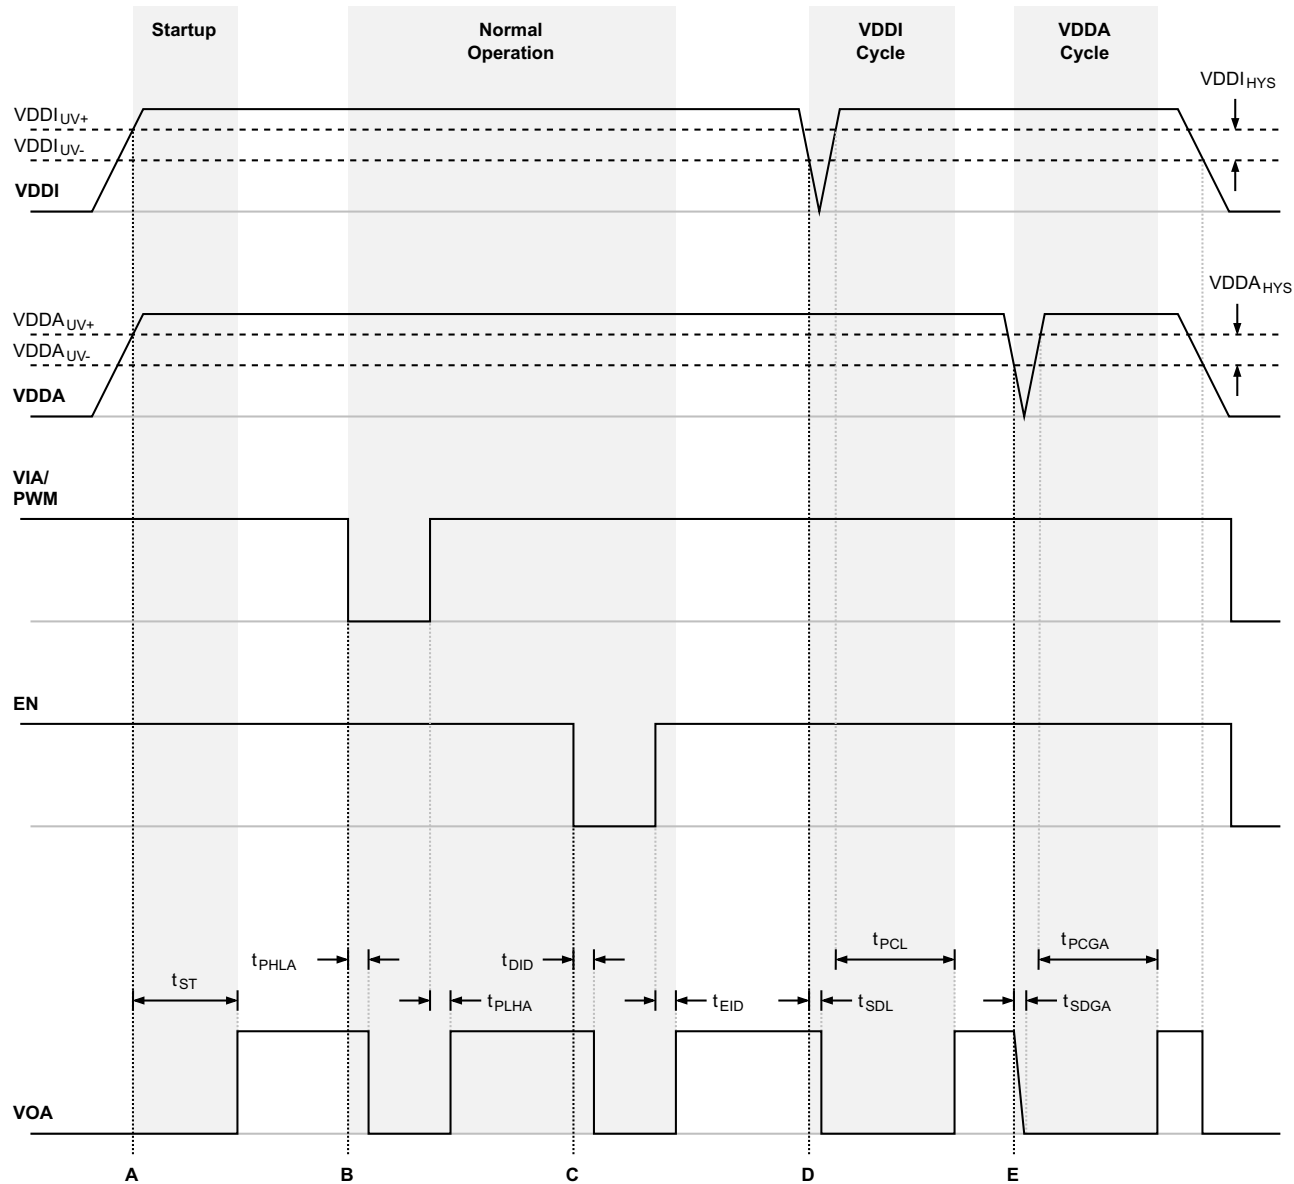

Figure 13. Gate Driver Timing Behavior
The device exhibits different timing behavior depending on the state of the power supplies as well as the driver inputs. Figure 13, “Gate Driver Timing Behavior,” below shows how the analog power supply voltages are plotted against the digital input and output state of the device, with relevant device timings listed.
For devices with an enable (EN) input, when the EN input is driven low, it unconditionally drives VOA and VOB low regardless of the states of VIA and VIB. Device operation terminates within t_{DID} after EN falls below V_{IL} and resumes within t_{EID} after EN rises above V_{IH} . For devices with a disable (DIS) input, when the DIS input is brought high, it unconditionally drives VOA and VOB low regardless of the states of VIA and VIB. Device operation terminates within t_{DID} after DIS rises above V_{IH} and resumes within t_{EID} after DIS falls below V_{IL} . See Figure 13, “Gate Driver Timing Behavior,” on page 11 for more details. The EN and DIS inputs have no effect if VDDI is below its UVLO level (i.e., VOA, VOB remain low).